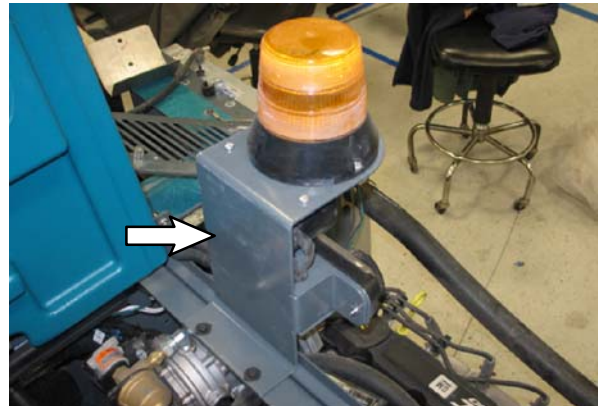

FIG. 4
8. Use two SEMS hex screws (7) and two flange hex nuts (8) to install the backup alarm / flashing / strobe light assembly onto the machine. (Fig. 4)